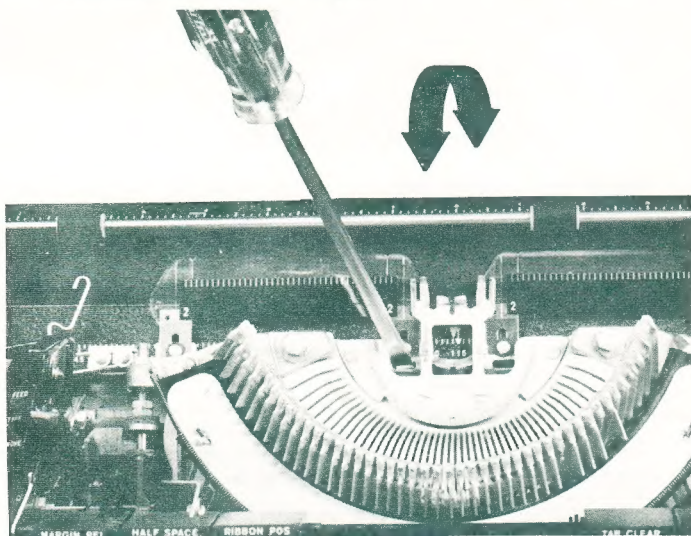

Figure 2
2. Use the large screwdriver to form the supports to bring the card holder closer to the platen. (Fig. 2)